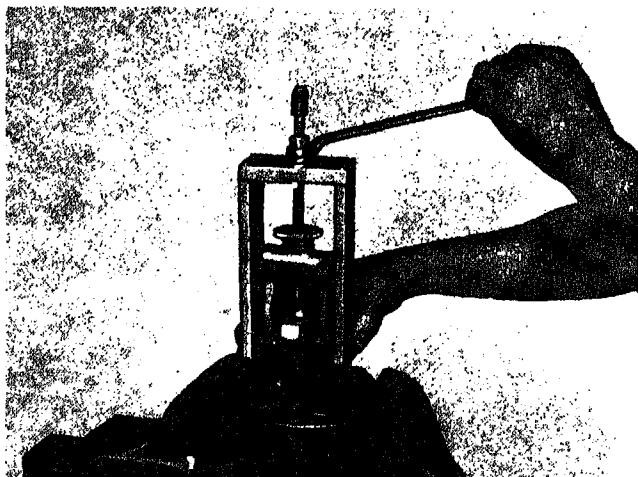

Fig. 506-1 Using ST-709 to pull weight shaft assembly
4. To remove governor weight carrier assembly from drive cover, heat housing in hot water and use ST-709 Puller to pull weight shaft assembly and bushing from front cover. Fig. 506-1. The bushing is locked on shaft with a snap ring and will usually come out of cover with weight shaft assembly; however, if snap ring pulls off shaft leaving bushing in front cover, use an internal engaging puller of ST-709 to pull bushing.